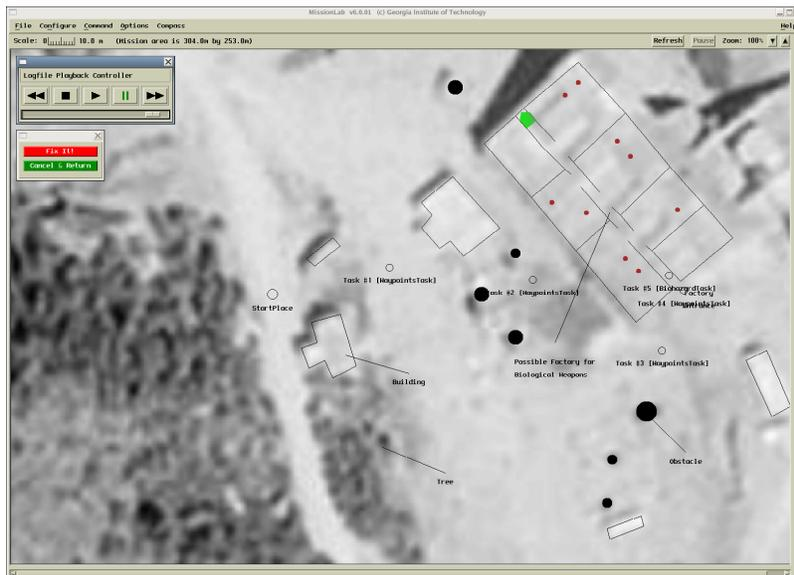

Figure 77: *mlab* - the playback mode
- *mlab* starts with the playback mode. Jog the robot until it reaches the end of the hallway (Figure 77).